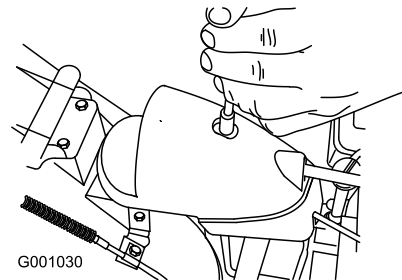

Figure 49
1. Remove the fastener on the gear cover (Figure 49), lift the front of the cover up, and slide it back and out of the way.